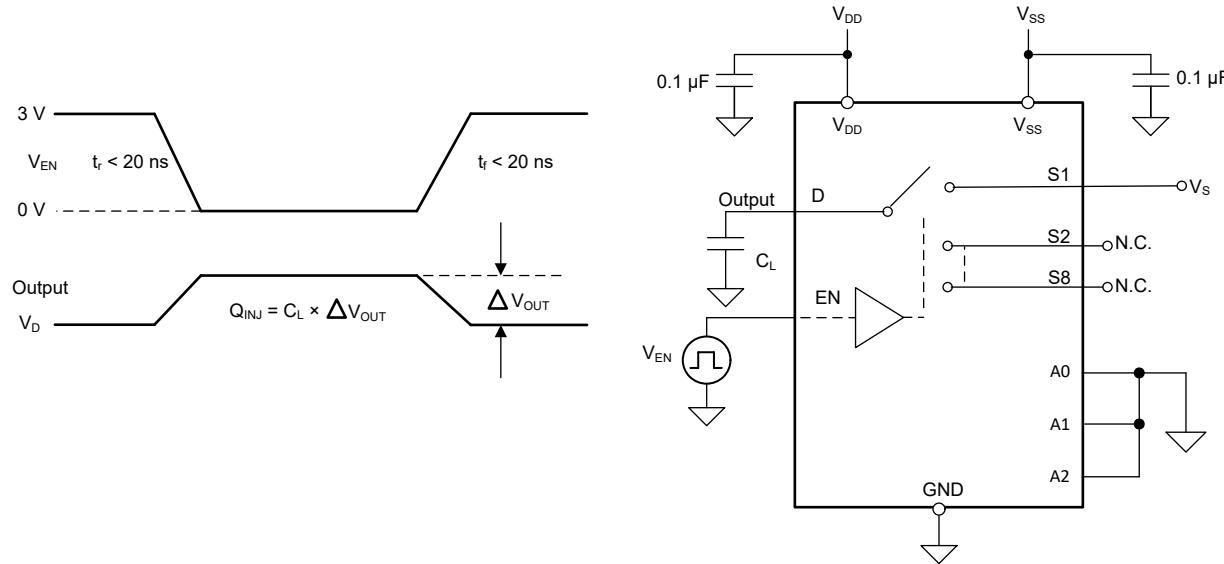

Figure 7-9. Charge-Injection Measurement Setup
The TMUX6208 has a transmission-gate topology. Any mismatch in capacitance between the NMOS and PMOS transistors results in a charge injected into the drain or source during the falling or rising edge of the gate signal. The amount of charge injected into the source or drain of the device is known as charge injection, and is denoted by the symbol Q_{INJ} . Figure 7-9 shows the setup used to measure charge injection from source (Sx) to drain (D).